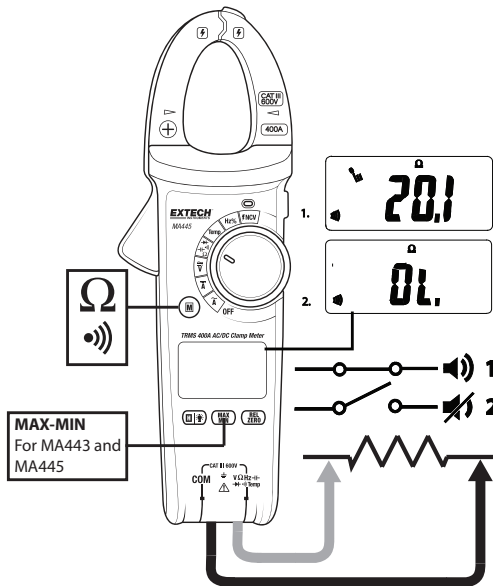

Fig. 7 – Resistance and Continuity Measurements
3. Insert the black test lead banana plug into the negative (COM) jack. Insert the red test lead banana plug into the positive (Ω) jack. See Fig. 7.
3. Insert the black lead banana plug into the negative (COM) jack. Insert the red test lead banana plug into the positive (Ω) jack. See Fig. 7 above.